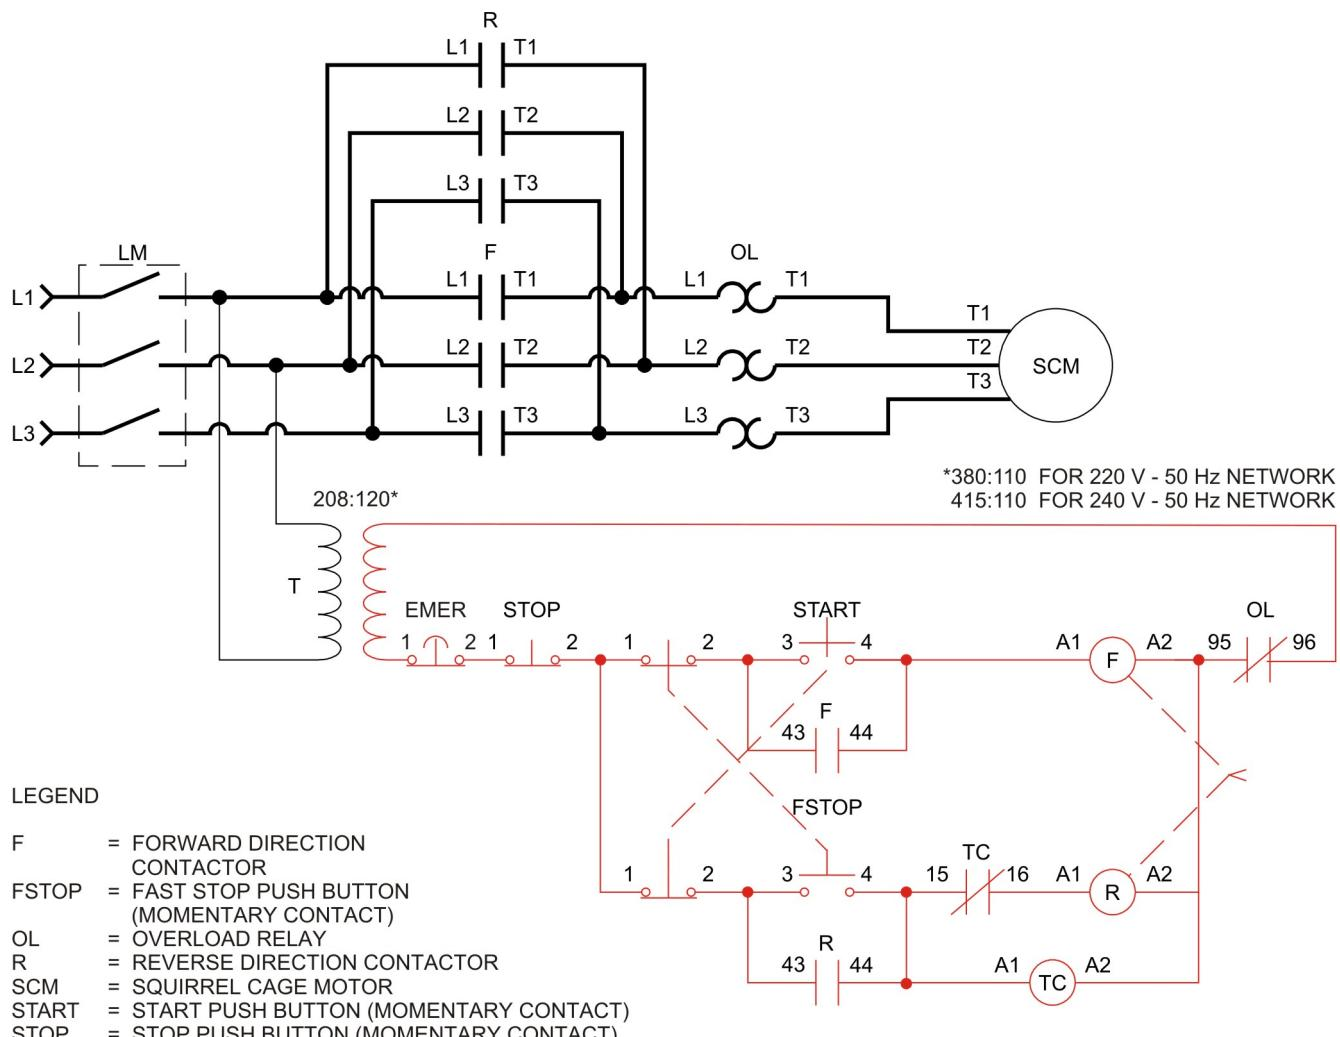

Figure 6-6. Plugging circuit with time relay.
Figure 6-6 is a plugging circuit using a time relay to stop the motor before it rotates backwards. To make the motor turn in the forward direction, the START push button is pressed. The STOP push button makes the motor coast to a stop. The FSTOP (fast stop) push button opens the forward contactor and activates the reverse contactor, making the motor stop rapidly. The *On-delay* function of the time relay opens the reverse contactor a preset time t after the forward contactor is de-energized. If t is chosen properly, the motor stops exactly when the reverse contactor is de-energized.
Connect the circuit shown in Figure 6-6.
2. In the Figure 6-6 circuit, what happens if time relay terminals 15 and 16 are short-circuited?
3. In the Figure 6-6 circuit, what happens when the STOP push button is pressed while the motor is running in the forward direction?
4. In the Figure 6-6 circuit, how can you keep the time relay well set, if the load increases significantly?